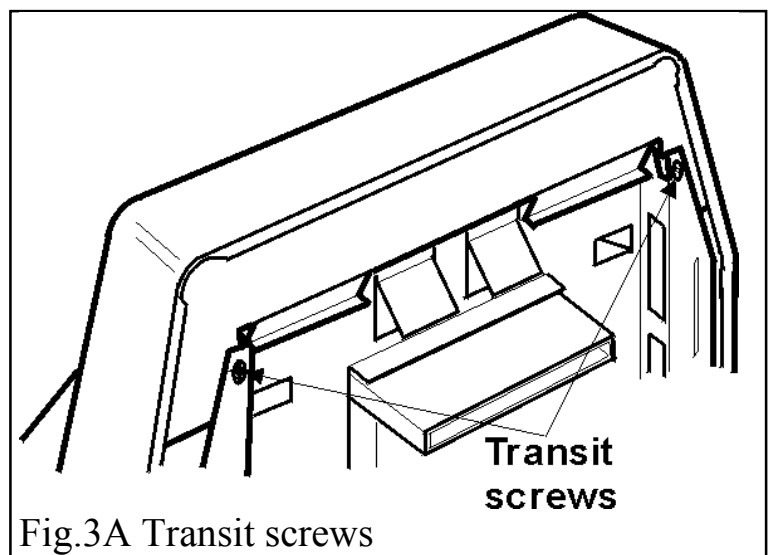

Fig.3A Transit screws
3.3.2. Remove the two transit screws from the upper back panel extensions. See figure 3A.